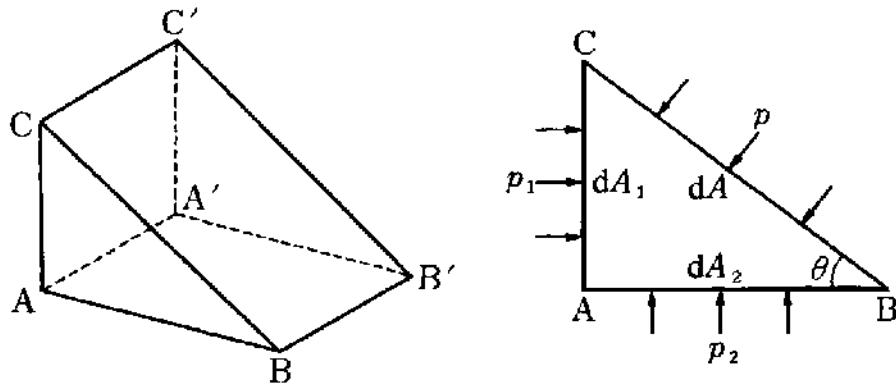

Fig. 3.2 Pressure acting on a minute triangular prism
2. The values of the pressure acting at any point in a fluid at rest are equal regardless of its direction. Imagine a minute triangular prism of unit width in a fluid at rest as shown in Fig. 3.2. Let the pressure acting on the small surfaces  $dA_1$ ,  $dA_2$  and  $dA$  be  $p_1$ ,  $p_2$  and  $p$  respectively. The following equations are obtained from the balance of forces in the horizontal and vertical directions: